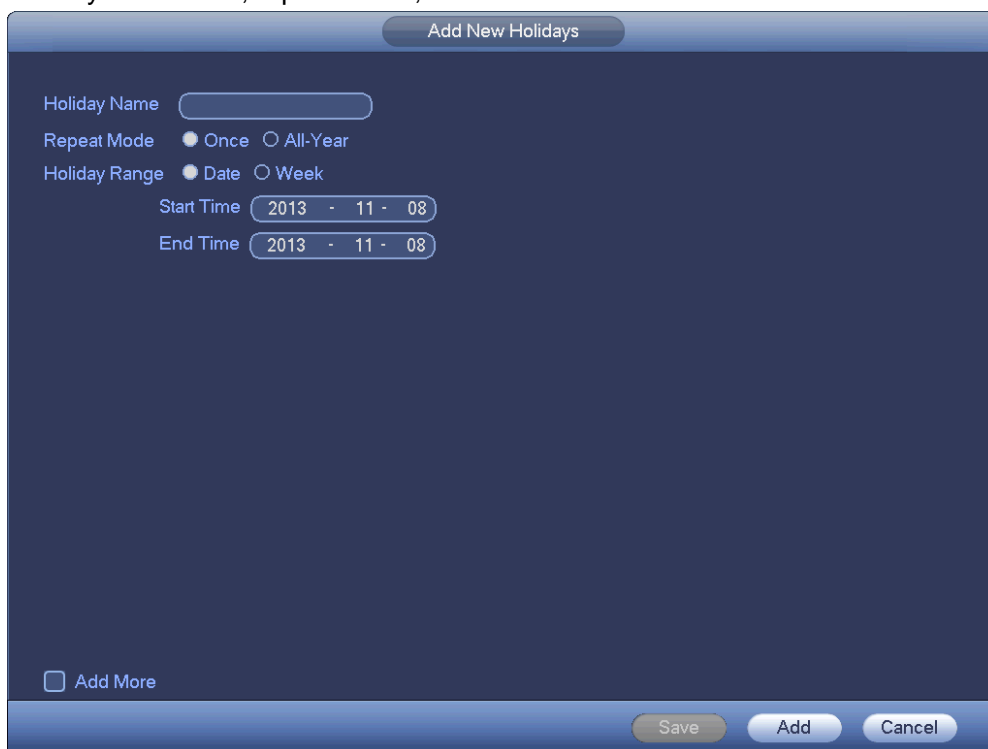

Figure 4-69
- b) Click Add new holiday button, you can see an interface shown as in Figure 4-69. Here you can set holiday date name, repeat mode, start time/end time and etc.